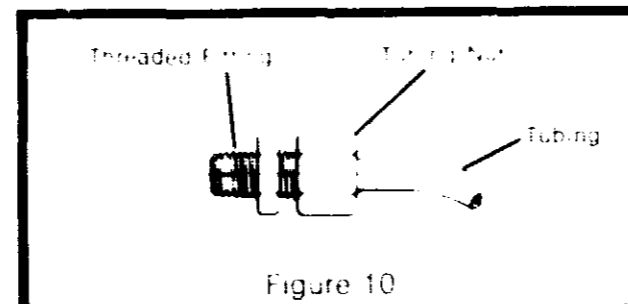

Figure 10
4. Take one of two threaded fittings supplied with feeder. (Figure 10) Teflon thread sealing tape applied to thread may improve the seal. Screw smaller, tapered end of this fitting carefully into